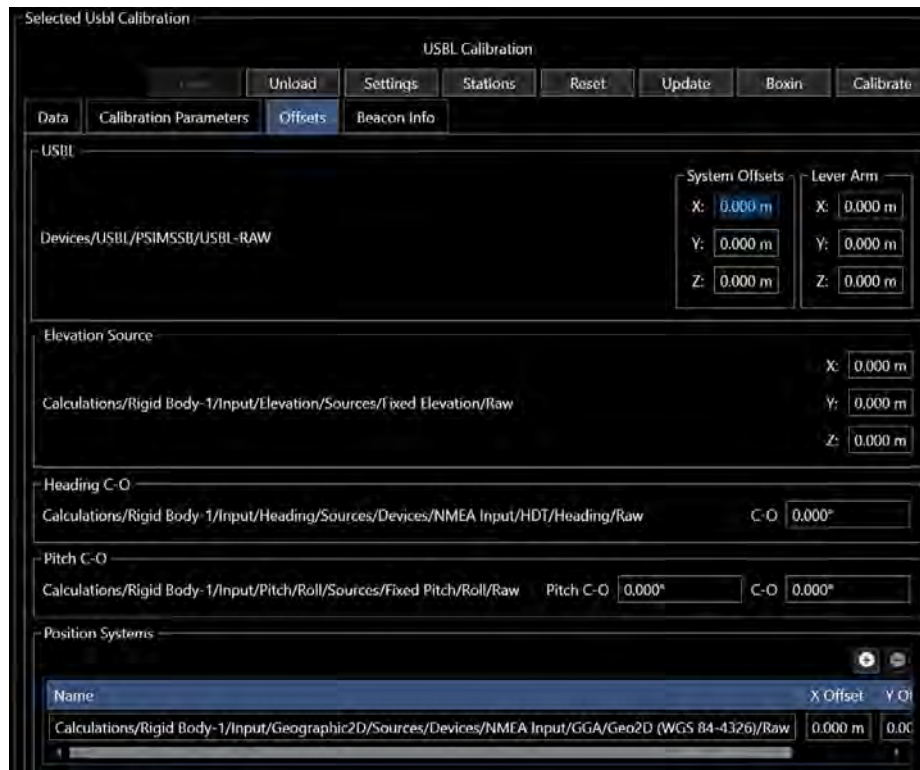

FIGURE 16-26 USBL CALIBRATION PROCESSING - OFFSETS TAB
- Verify the offsets by clicking the **Offsets** tab (see Figure 16-26)